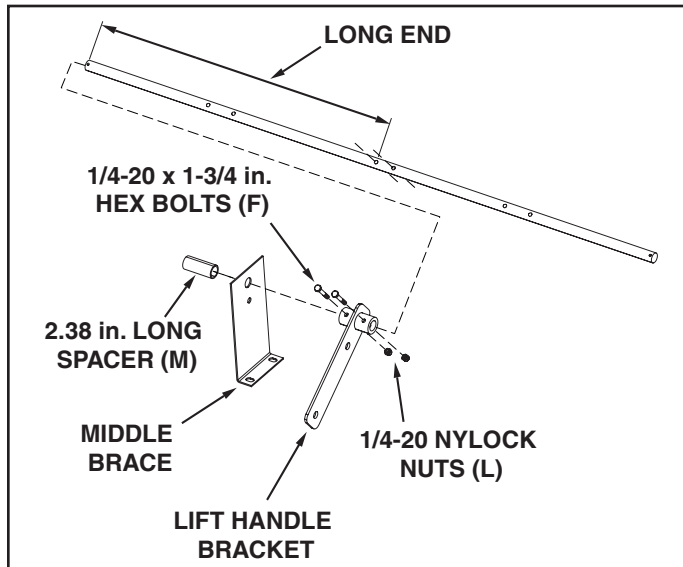

FIGURE 4
- Fasten the lift handle bracket to the middle of the shaft using two 1/4-20 x 1-3/4 in. hex bolts and 1/4-20 nylock hex nuts. Turn the middle brace as shown. Slide the middle brace and then the 2.38 in. long tube spacer onto the long end of the shaft. See figure 4.